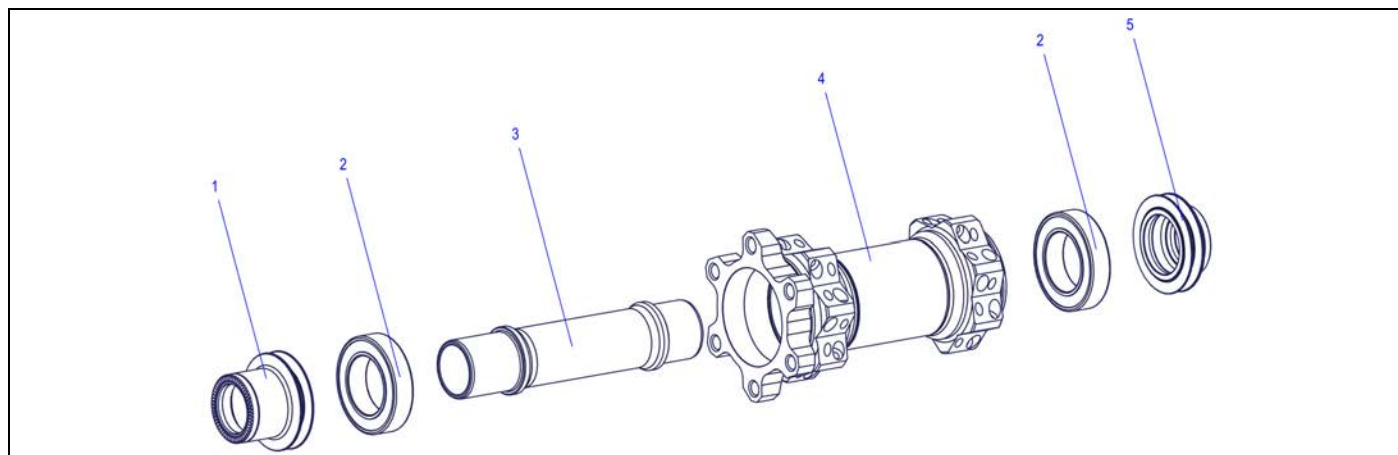

Figure 3-1: Overview: front wheel with inserted adapters (version 1)
1. Clamp one of the adapters (Abb.3-1/1, 5) into a vice.
3. Grease the bearings (Abb.3-1/2) and the contact surface of both adapters (Abb.3-1/1, 5) with multi purpose grease.
1. Put both adapters (Abb.3-1/1, 5) onto the hub by hand.